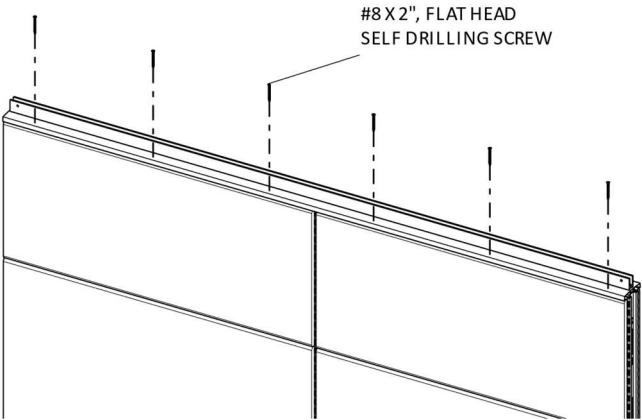

FIGURE 2
- Securely fasten Frameless Glass/Acrylic Extrusion into the pre-drilled holes of top trim with #8 X 2", Flat Head Self Drilling Screws, (Figure 2).